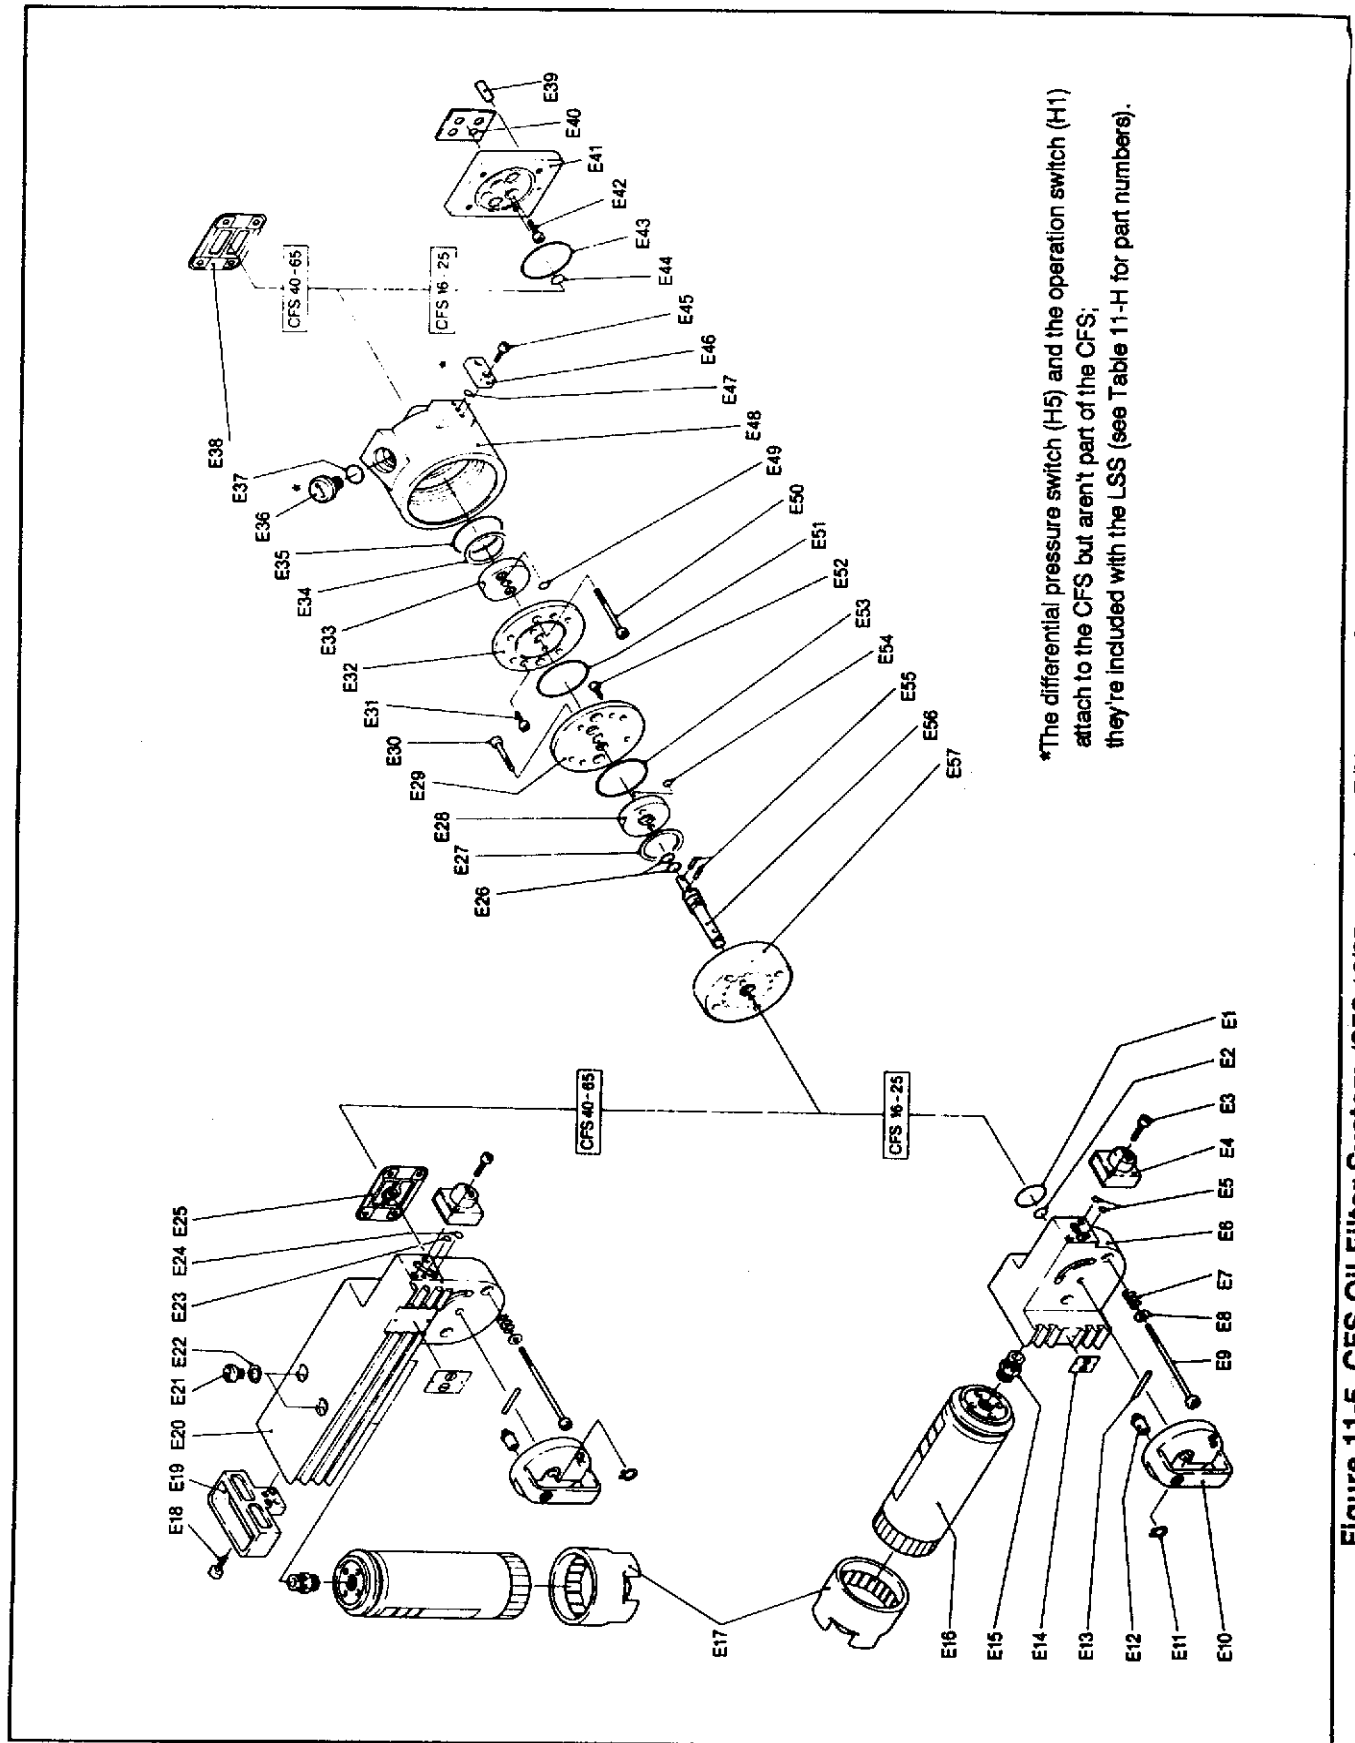

Figure 11-5. CFS Oil Filter System (CFS 16/25 complete - P/N 10176. CFS 40/65 complete - P/N 101 77-B2)
*See Figure 11-1 for the part number of the complete CFS filter assembly. If you have the B1 version of the CFS, see Edition B of this manual for replacement part numbers. The B1 version has a white valve handle as shown in Figure 11-1, and the B2 version has the black plastic valve handle as shown in Figure 11-5. The B1 version can use only the 1-liter elements; the B2 version can use either the 1.6-liter elements or the 1-liter elements.
Table 11-E — Parts List for the CFS-B2 Oil Filter* (see Figure 11-5)